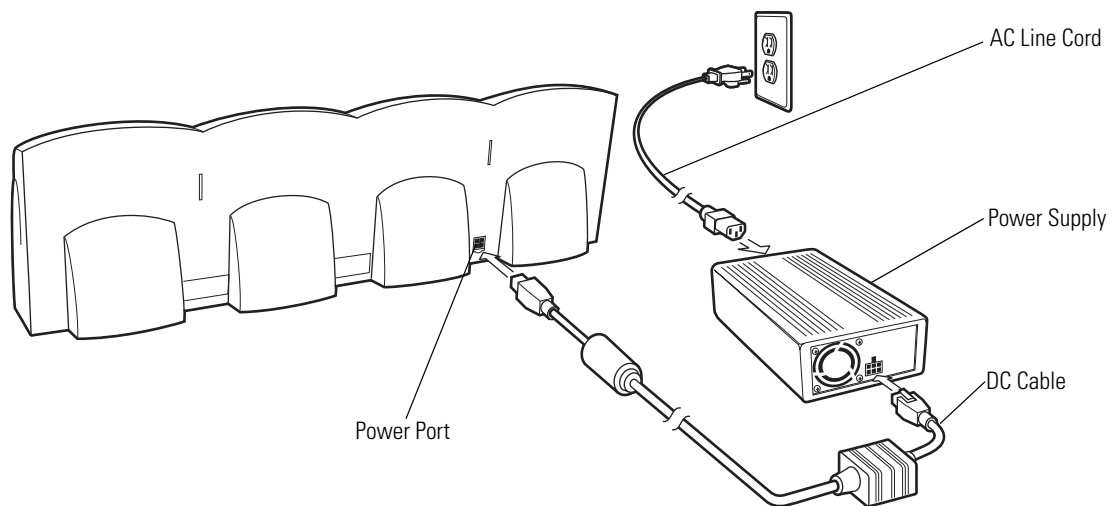

Figure 2-3. Four Slot Charge Only Cradle, Setup
9. Connect the power (see Figure 2-3 on page 2-7). The power supply should be located in the power supply well.